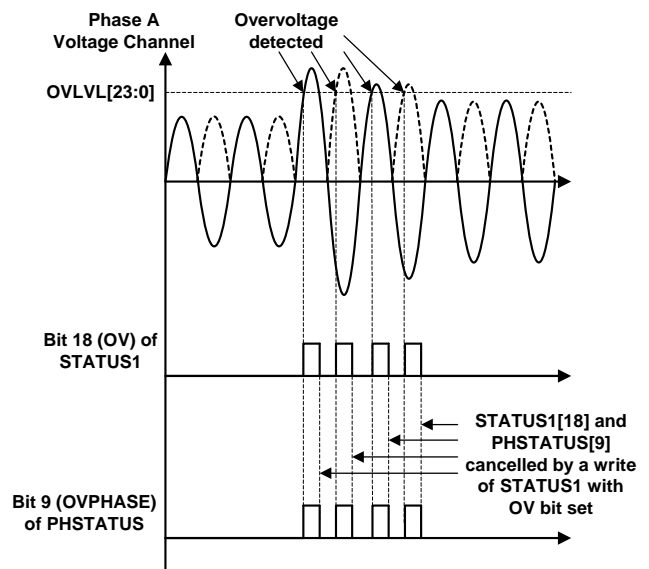

Figure 33. ADE7858 Overvoltage Detection
The ADE7858 detects when the instantaneous absolute value measured on the voltage and current channels becomes greater than thresholds set in OVLVL[23:0] and OILVL[23:0] 24-bit unsigned registers. If bit 18 (OV) in MASK1[31:0] register is set, $\overline{IRQ1}$ interrupt pin is driven low in case of an overvoltage event. There are two status flags set when $\overline{IRQ1}$ interrupt pin is driven low: bit 18 (OV) in STATUS1[31:0] register and one of bits 11, 10, 9 (OVPHASE[2:0]) in PHSTATUS[15:0] register identifying the phase that generated the overvoltage. The status bit 18 (OV) in STATUS1[31:0] register and all bits 11, 10, 9 (OVPHASE[2:0]) in PHSTATUS[15:0] register are cleared and $\overline{IRQ1}$ pin is set back high by writing STATUS1[31:0] register with the status bit set to 1. Figure 33 presents overvoltage detection in phase A voltage. Whenever the absolute instantaneous value of the voltage goes above the threshold